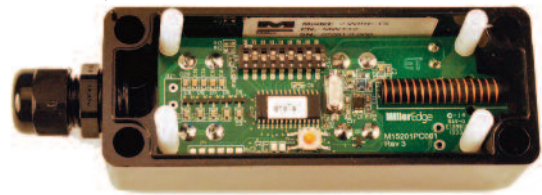

**Fig. 2-6 WIRE CONNECTION TO TERMINAL BLOCK**
- 2-4. Place the two (2) *AA batteries* in their holders on the Transmitter in the proper direction, paying attention to the (+) and (-) ends. Momentarily press the *Test Button* on the Transmitter. The *Green Tx LED Indicator* should light for 3 seconds. To test the Alarm on the MWTA12 Model, press and hold the **Test Button**. The Alarm should sound in approximately ten (10) seconds. Release the **Test Button**.
- 2-6. Strip the insulation from the two wires back 1/4". Pull the *Terminal Block* off the Transmitter's PCB. Place the safety edge wires in the *Terminal Block* and tighten with screwdriver. Re-seat the *Terminal Block* on the PCB (see Fig. 2-6).